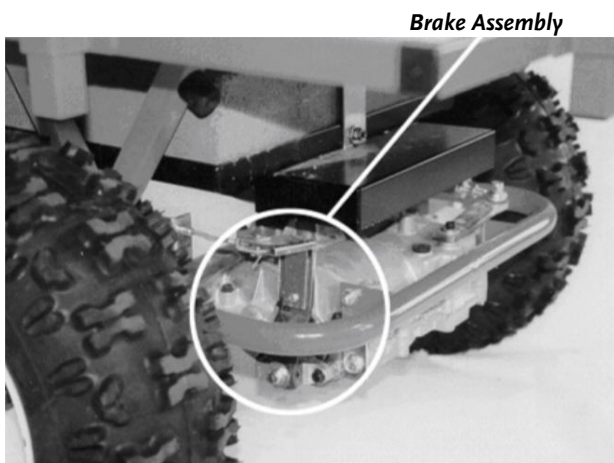

Figure 18
**NOTE:** If your DR POWERWAGON-PRO rolls on slopes when the Parking Brake is set, or if you cannot get the Parking Brake to set, it needs to be adjusted (**Figure 18**).